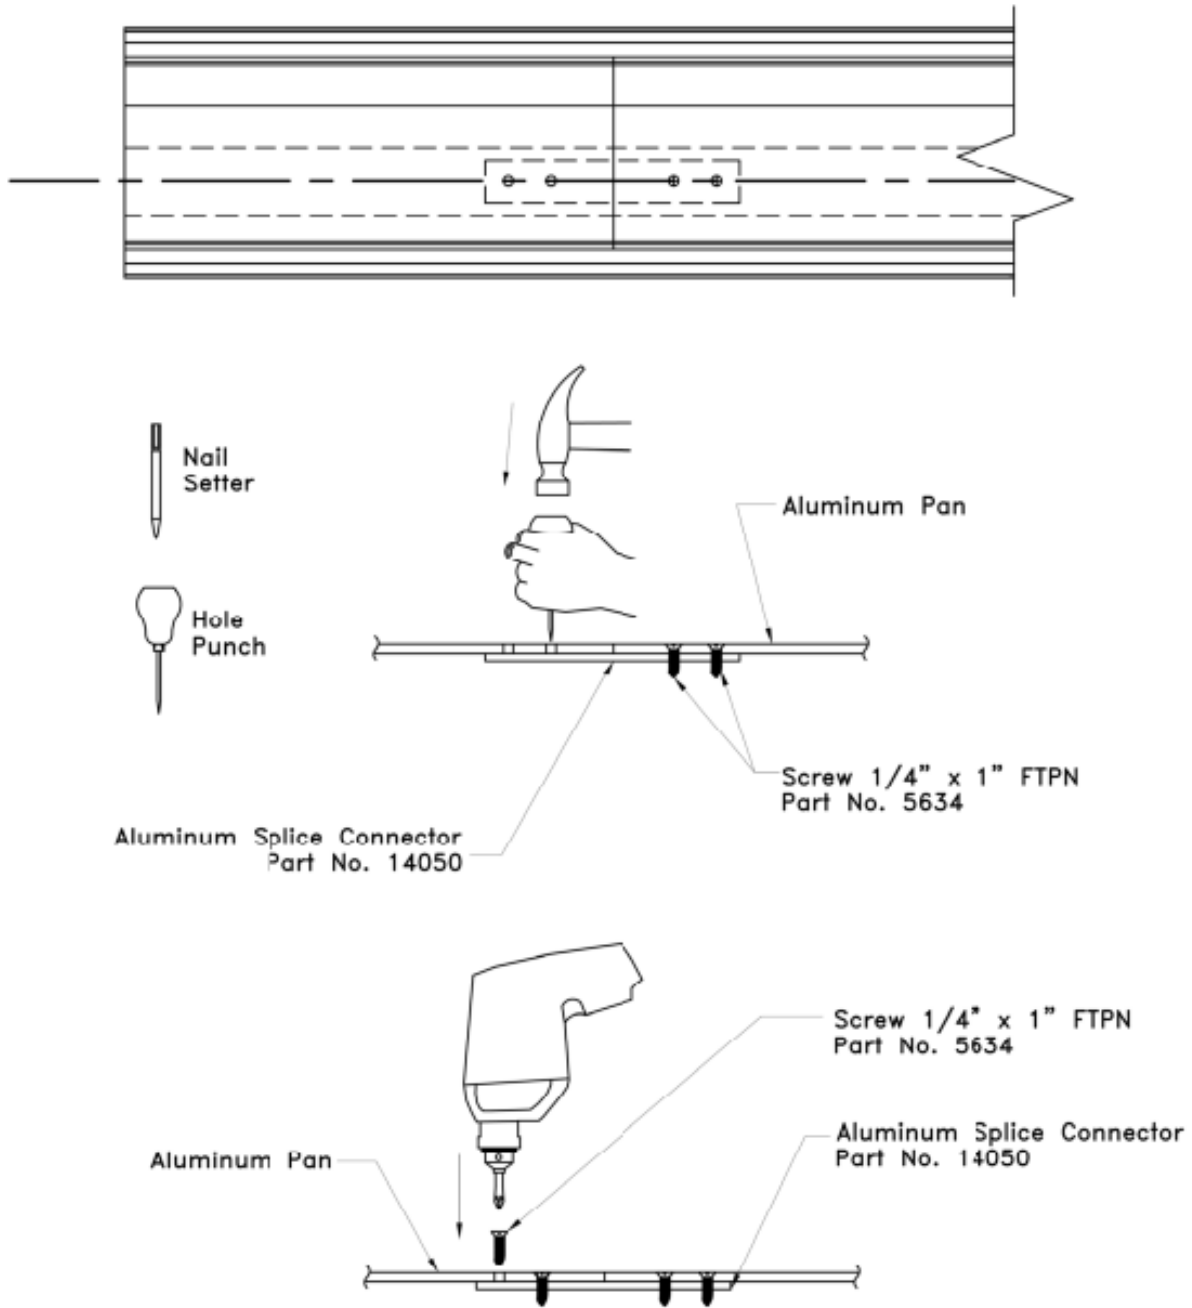

FIGURE 9
- Using the splice connector holes in the aluminum pan as a guide, firmly tap in the guide marks into the aluminum splice connector below utilizing either a nail setter or a hole punch. Pre-drill 3/16" dia. Pilot hole in connector. Use self-tapping screws (Part No. 5634) to complete splicing of pan systems together. **SEE FIGURE 9**